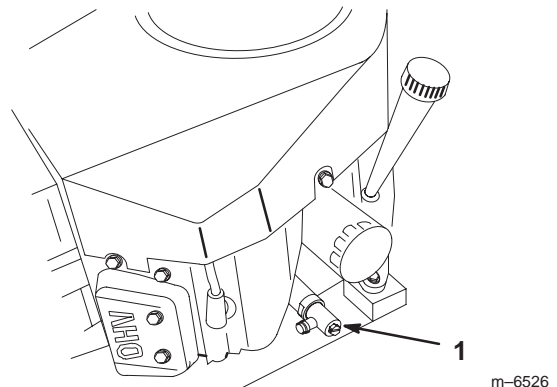

Figure 17
3. Place a pan below the oil drain. Use either a flat screw driver, 3/8 inch (10 mm) wrench to open valve (Fig. 17).
4. Rotate valve end counterclockwise to open valve (Fig. 17).
5. When oil has drained completely, rotate valve end clockwise to close the valve (Fig. 17).